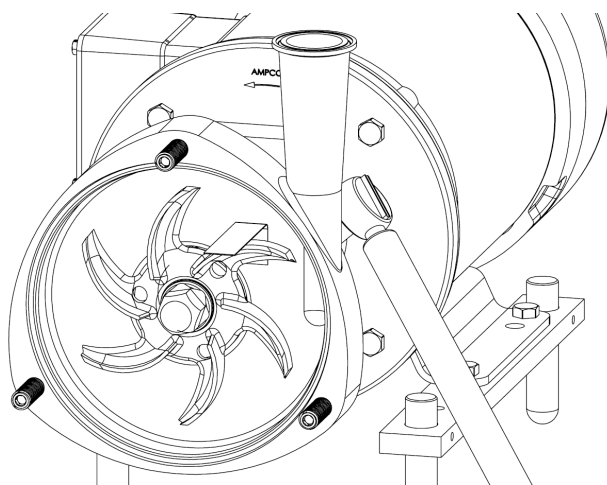

Figure 38
2. Once the shaft collar is able to slide on the motor shaft, insert an appropriate thickness shim between the back side of the impeller vane and the back of the casing's bore as shown in figure 38. Check all vanes and set the clearance with the vane that has the smallest clearance.